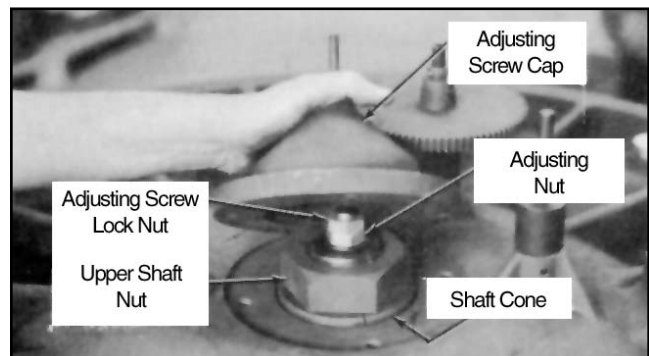

Figure 12
4. Remove screws and lift adjusting screw cap from cover, Figure 12.